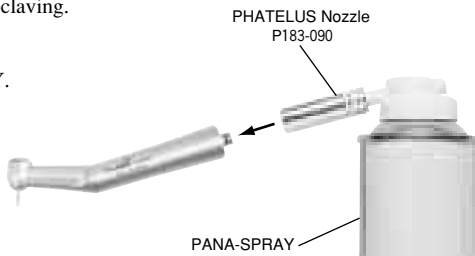

Fig. 7
- ① Attach the PHATELUS nozzle into the spray outlet of PANA-SPRAY.
- ② Insert the PHATELUS nozzle into the handpiece back end.
- ③ Spray for 1-2 seconds. Hold the spray can upright. (Fig. 7)